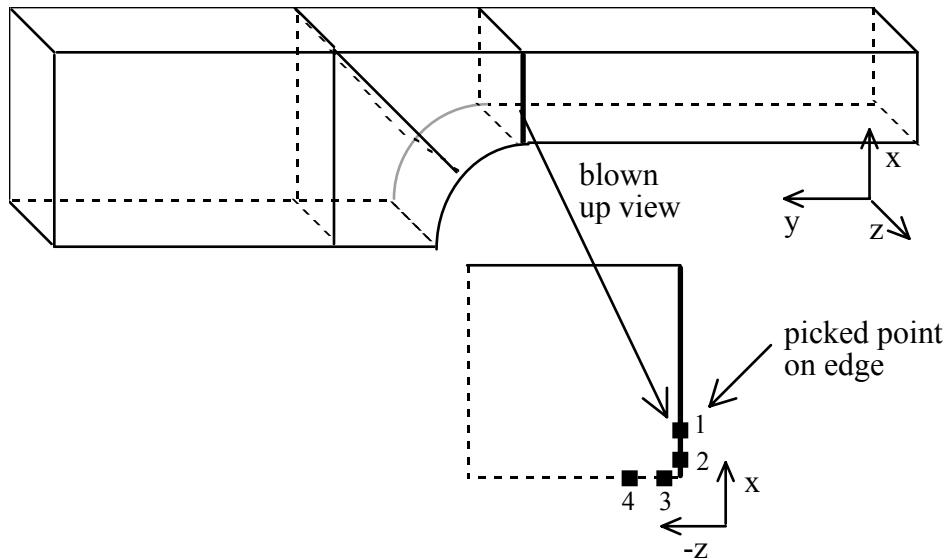

Figure 3.8. Picked point on edge for adding a vertex.
Step 3: We wish to enter the exact coordinates for these vertices, so select **Key In Coordinates** from the collector buttons. Then pick a point on the edge that is close to the desired location of the first vertex, point #1 in Figure 3.8.